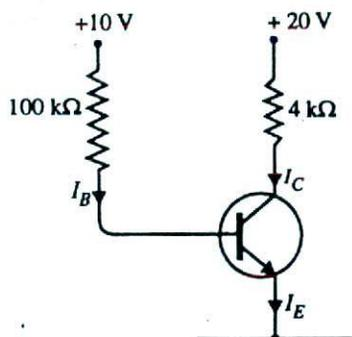

Fig. 11.32
2. Fig. 11.32 shows biasing with base resistor method. Determine the operating point. Assume the transistor to be of silicon and take  $\beta = 100$ . [  $I_C = 0.93 \text{ mA}$ ,  $V_{CE} = 17.3 \text{ V}$  ]